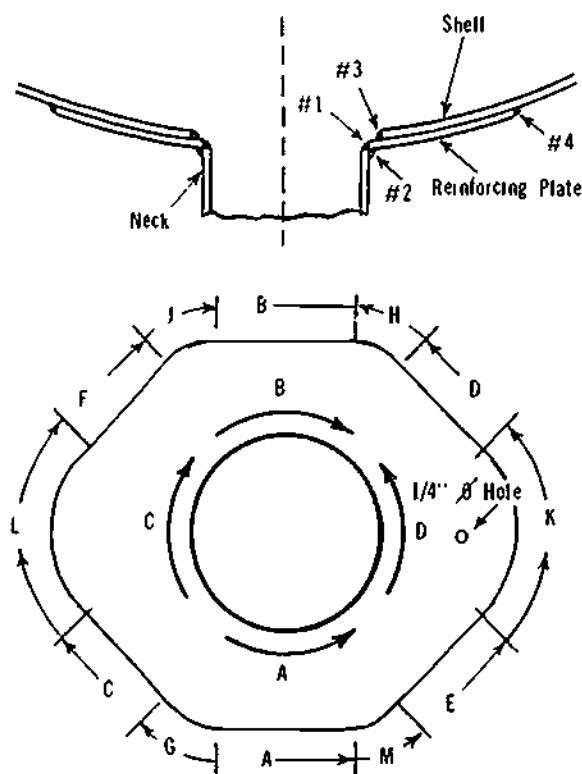

Figure 12-36. Welding Sequence for Manway Fittings with Reinforcing Plate
1. Welds 1 and 2 as shown in Figure 12-36 are completed in the shop.